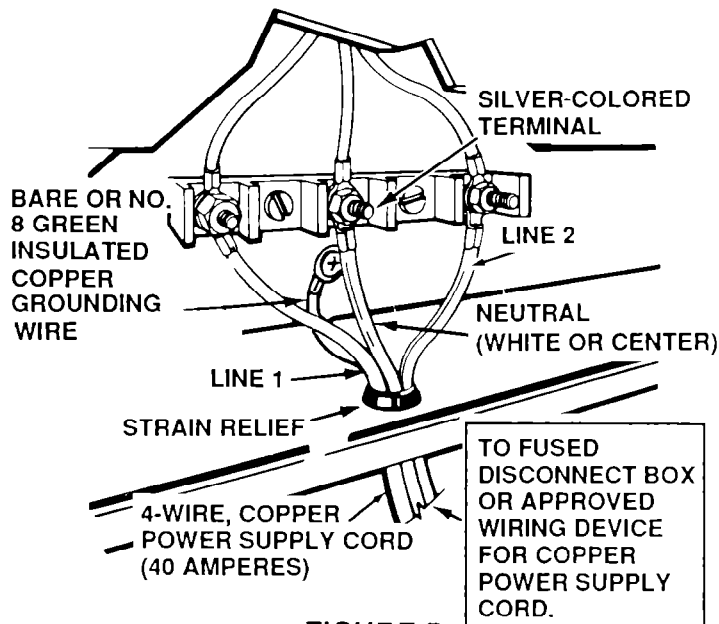

FIGURE 5
- C. Connect the grounding wire (green) of the copper-power supply cord to the frame of the appliance with the grounding screw, using the hole in the frame where the grounding strap was removed. See **Figure 5**.